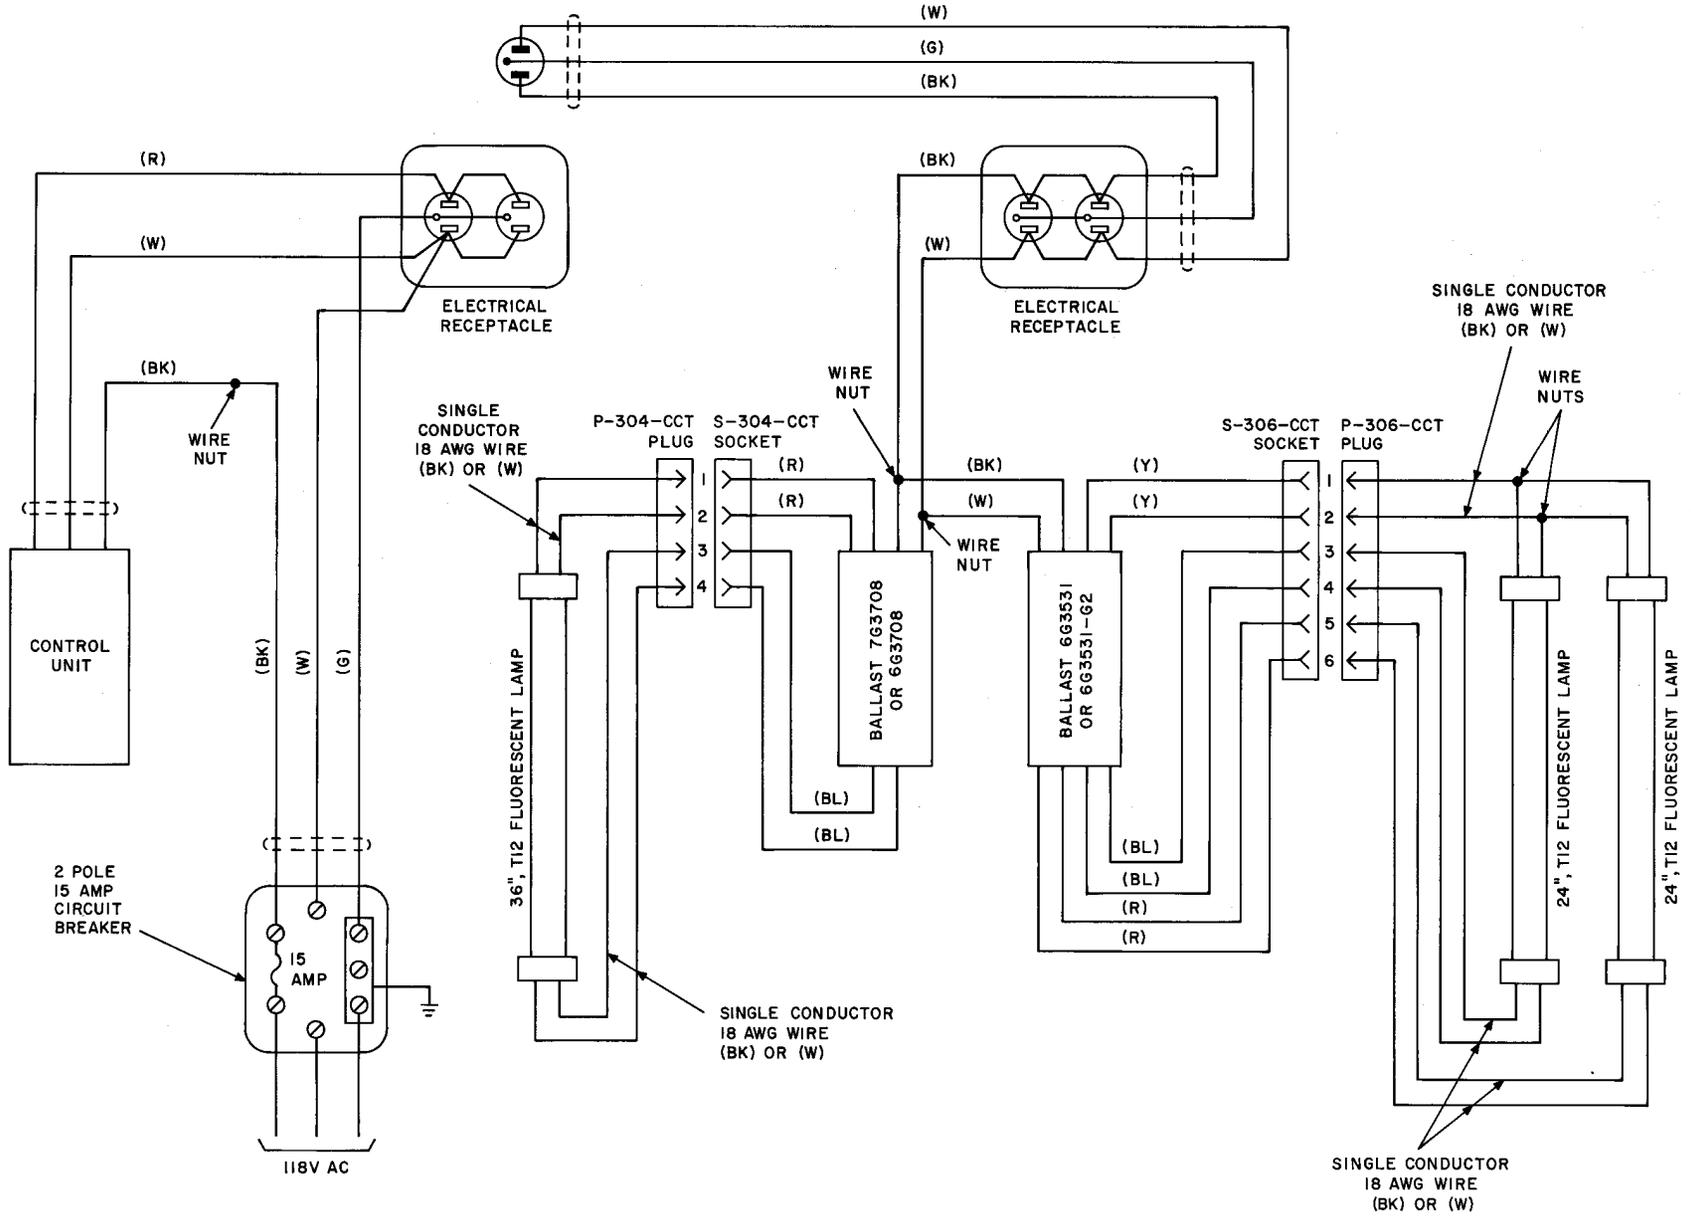

Fig. 13—Wiring Diagram of Capitol Kiosk Booth
**3.10** Connect the power wires in accordance with Fig. 13.